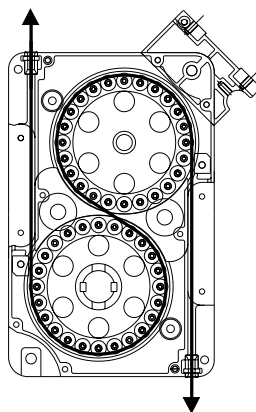

Fig. 6 - TIRAK lifting mechanism
The lifting mechanism (13) consists of a TWIN-TIRAK model T-1000 hoist, manufactured by the TRACTEL Group and specially designed for SECALT building maintenance units. The wire rope travels in an "S" shaped path around the two adhesion pulleys (Fig. 6). The TWIN-TIRAK hoist is fitted with an overspeed safety brake which operates if the cradle descends too fast, and a disc brake, which is opened electrically as soon as the power is supplied to the motor.